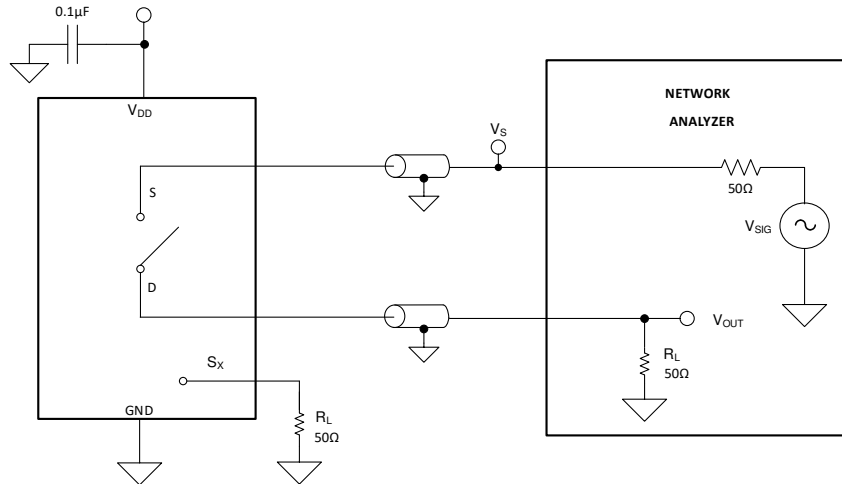

**Figure 12. Charge-Injection Measurement Setup**
The TMUX1219 has a transmission-gate topology. Any mismatch in capacitance between the NMOS and PMOS transistors results in a charge injected into the drain or source during the falling or rising edge of the gate signal. The amount of charge injected into the source or drain of the device is known as charge injection, and is denoted by the symbol  $Q_C$ . Figure 12 shows the setup used to measure charge injection from Drain (D) to Source (Sx).